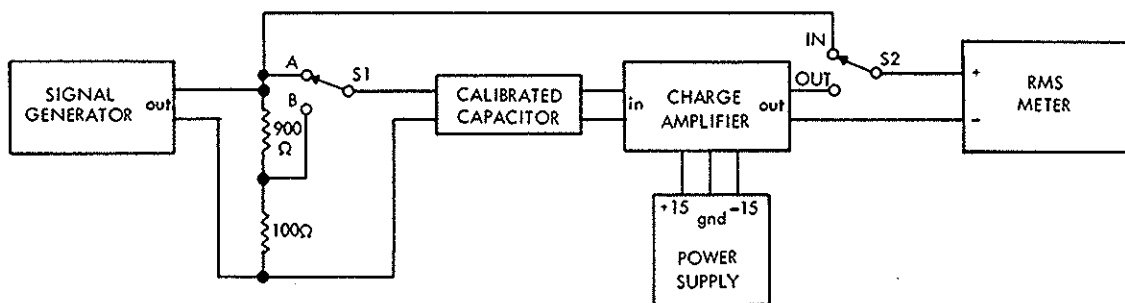

Figure 5-4. Recalibration Set-Up.
- a. Connect equipment as shown in Figure 5-4.
- b. Referring to Figure 5-4, set switches S1 and S2 as shown in test setup.
- a. Referring to Figure 5-4, set switch S1 to A position.